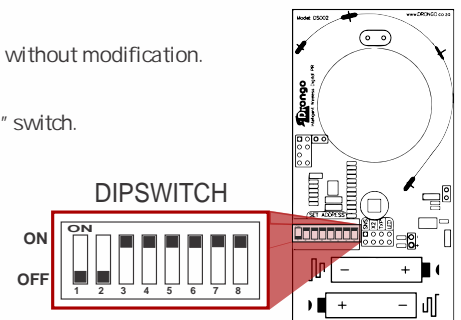

Fig 3.
3. Set the 8 dipswitches, different from your other sensor settings (See Figure 3).